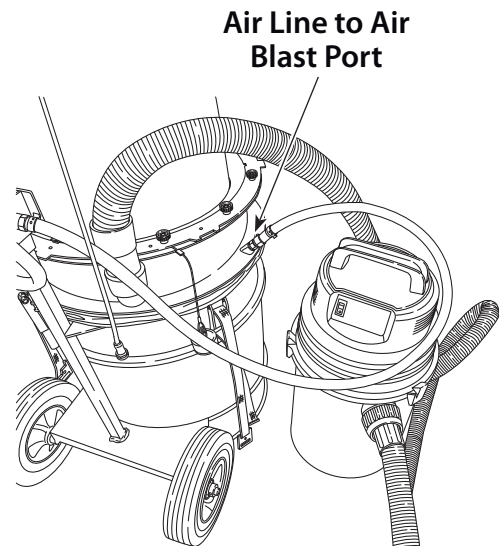

Figure 24
3. Attach the air line that was removed from the fixture to the air blast port on the intermediate base. (Figure 24)